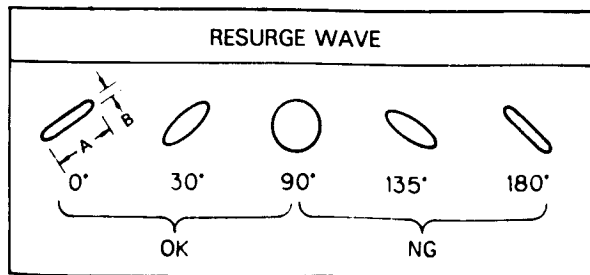

Fig. 2-2
- (2) Playback the test tape; adjust the azimuth screw so that section A of the resurge wave form is maximum and section B is minimum. Fig. 2-2